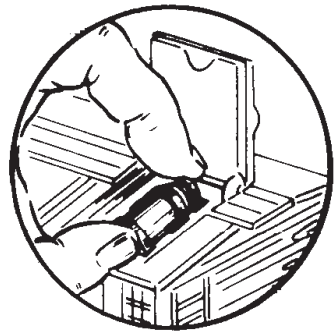

Figure 3. Loading the cans
**L**oad your Milk Car with cans, then watch the figure unload them at the press of a button! This car operates best at 10-12 volts (AC).
1. Load the cans into the hatch in the roof. The top of the cans must be toward the center of the car as you load them. Refer to Figure 3.